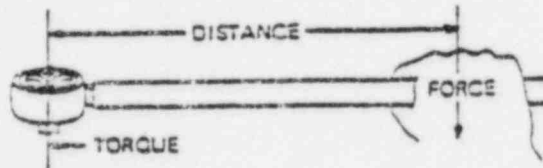

Figure 1: Torque Wrench Principles
- a. The average individual can safely and comfortably pull with a force of approximately 100 pounds (Figure 1). This should be taken into consideration in determining the desirability of using a torque multiplier as follows: